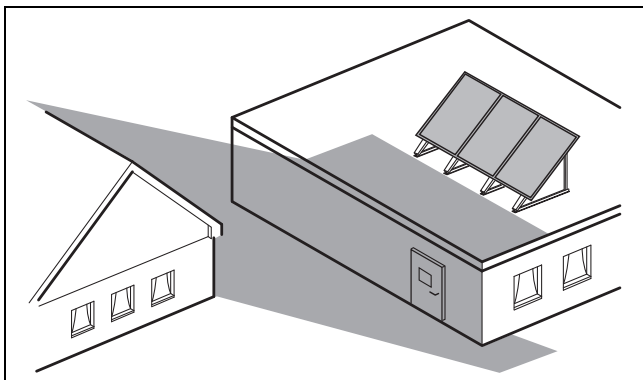

Fig. 10 Avoiding shade
- Prevent possible shading (→ Fig. 10 and 17).